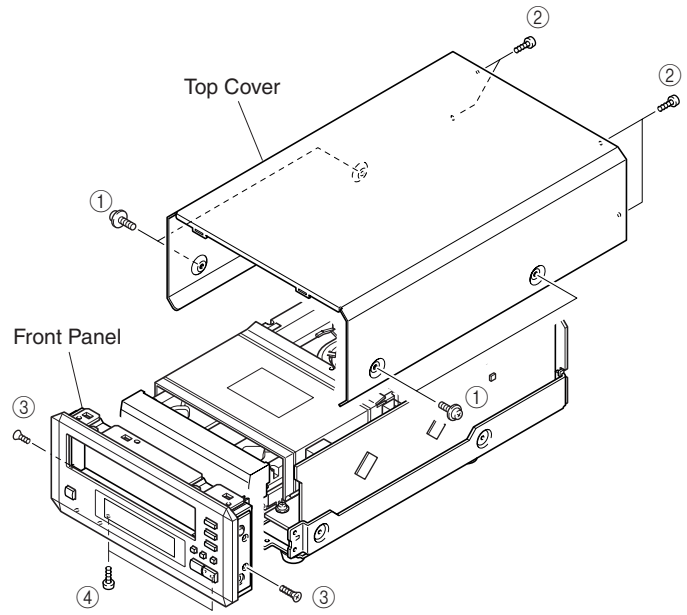

Fig. 1
- Remove 4 screws (①) and 4 screws (②) in Fig. 1.
- Remove 2 screws (③) and 2 screws (④) in Fig. 1.
- Remove the Front Panel Unit forward in Fig. 1.